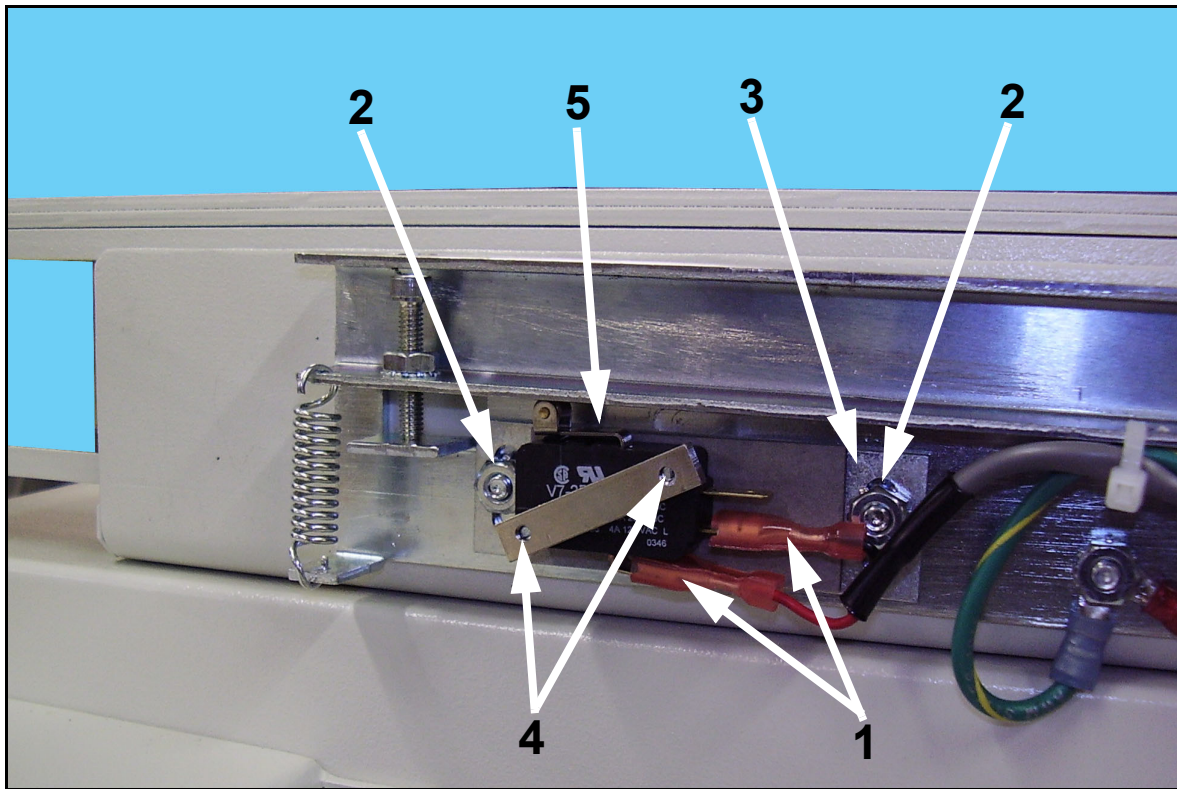

Figure 6-23. Switch Removal
- 4 Disconnect the terminals (1 in Figure 6-23).
- 5 Unscrew the two nuts (2) and remove the plate assembly (3).
- 6 Unscrew the mounting screws (4) from the rear of the plate assembly and remove the switch (5).